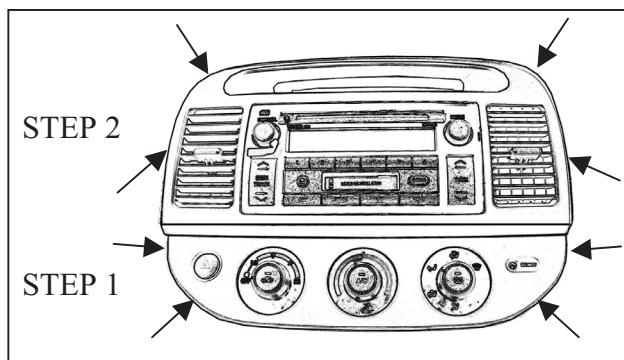

Figure A1
- 3. Remove AC/Heat control panel (Step 1 in Figure A1). Pry four clips using nylon pry tool. Then disconnect wires from AC/Heat controls. Clip location is depicted by arrows in Figure A1.
- 4. Remove AC Duct faceplate (Step 2 in Figure A1). Disconnect clock wire harness.